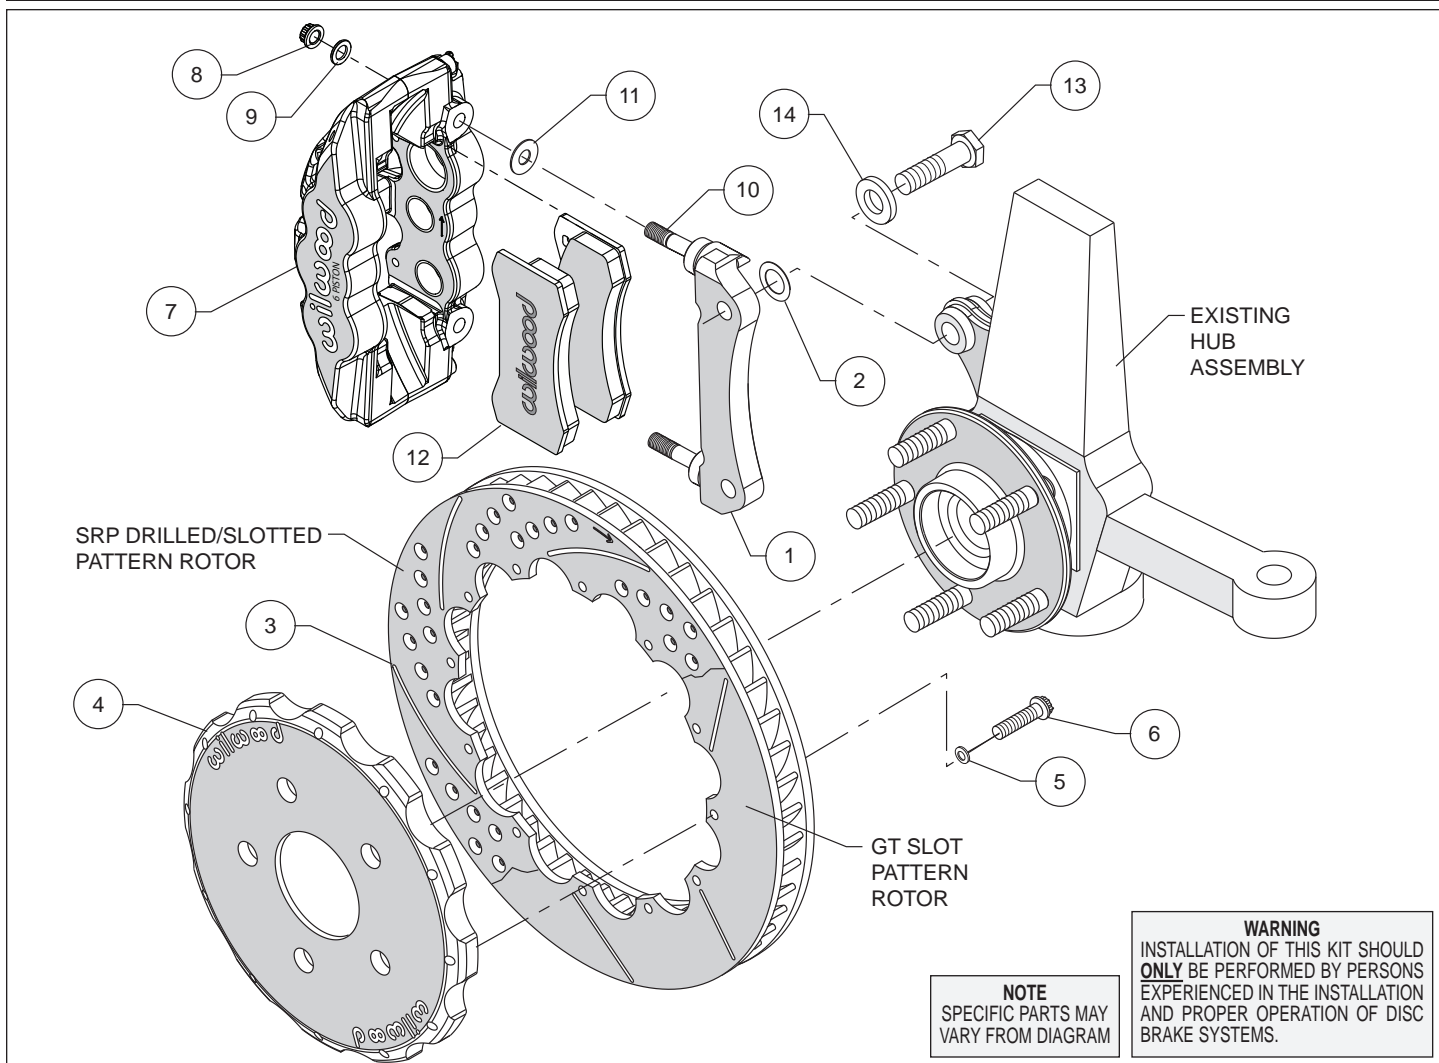
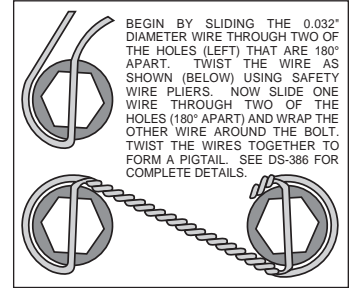

Figure 1. Typical Installation Configuration
Figure 3. Safety Wire Diagram
**Assembly Instructions** (numbers in parenthesis refer to the parts list and Figure 1 on the preceding pages):
- The caliper mount bracket (1) should initially be installed with clean, dry threads on the mounting bolts. Orient the bracket, as shown in Figure 1 and install using bolts (13) and washers (14). Initially place one .029" thick shim (2) on each bolt between the bracket and upright, Figure 1. Temporarily tighten the mounting bolts. **NOTE:** *The bracket must fit squarely against the mount bosses on the upright.* Inspect for interference from casting irregularities, machining ridges, burrs, etc. Later, after the caliper alignment has been checked, the mount bolts will be secured using red *Loctite*® 271.
- Orient the rotor (3) and the hat (4) as shown in Figure 1 and Photo 1. Attach rotor to hat using bolts (6) and washers (5). Using an alternating sequence, apply red *Loctite*® 271 to the threads, and torque to 155 **in-lbs**. For an added measure of security, the bolts may be safety wired using standard 0.032 inch diameter stainless steel safety wire as shown in Figure 3. Refer to Wilwood's data sheet DS-386 (available at [www.wilwood.com/Pdf/DataSheets/ds386.pdf](http://www.wilwood.com/Pdf/DataSheets/ds386.pdf)) for complete safety wire installation instructions.
- NOTE:** *This kit contains distinct right and left hand calipers that must be mounted in a specific direction, as described below.* Lubricate the caliper mounting studs (10) with lightweight oil. Initially place one .030" thick shim (11) on each stud between the caliper and the bracket, as shown in Figure 1 and Photo 2. Mount the caliper (7) onto the bracket (1) using lock nuts (8) and washers (9), Figure 1. Temporarily tighten the lock nuts. Ensure that the caliper is mounted so the largest pistons are at the rotor exit end of the caliper, in relation to the direction of the rotor. View the rotor through the top opening of the caliper. The rotor should be centered in the caliper, Photo 3. If not, adjust by adding or subtracting shims (2) between the bracket and the upright. Always use the same amount of shims on each of the two mounting bolts. Once the caliper alignment is correct, remove the bracket mounting bolts one at a time, apply red *Loctite*® 271 to the threads, and torque to 77 ft-lbs.
- Remove the two pad retaining pins from the caliper (7) by carefully popping out the pin retaining clips and sliding out the pins. Insert the brake pads (12) into the caliper from the bottom, Figure 1 and Photo 4. With the friction material facing the rotor, secure the brake pads in place with the pad retaining pins and clips, Photo 5. Reinstall the caliper onto the caliper mounting bracket and temporarily tighten the lock nuts. Check that the top of the brake pad is flush with the outside diameter of the rotor, Photo 6. If not, adjust by adding or subtracting shims (11) between the caliper and the bracket. After the caliper pad height is set, torque the caliper lock nuts (8) to 47 ft-lb.